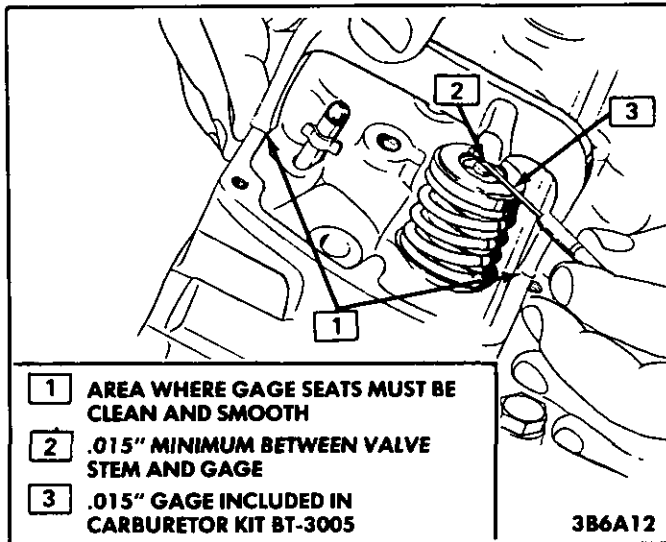
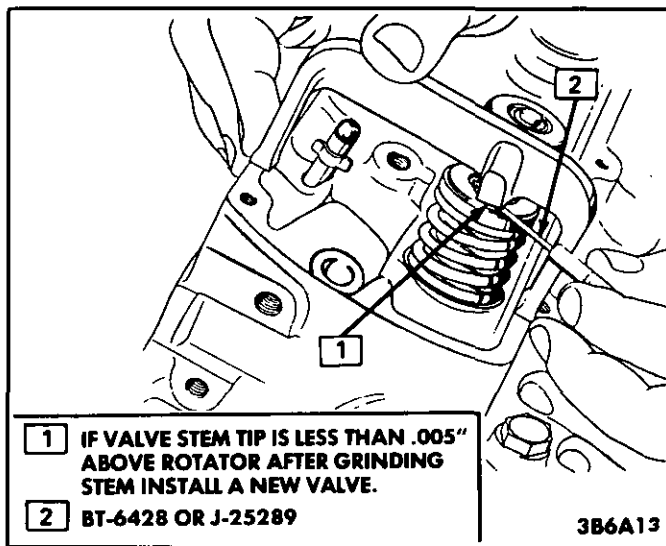

Figure 11 Measuring Valve Stem Height (Bridge-type Tool)
Figure 12 Measuring Valve Rotator Height
- Installed valve stem height (Figure 11). Excessive valve stem height is caused by lowering of the valve seat and excessive valve face grinding during reconditioning. To correct, remove the valve and shorten the valve stem by grinding. (Refer to Figure 12 for specifications.)
- Valve stem-to-rotator height (Figure 12)
NOTICE: If below specification (Figure 12), the valve must be replaced to avoid interference of the rotator with the rocker arms.